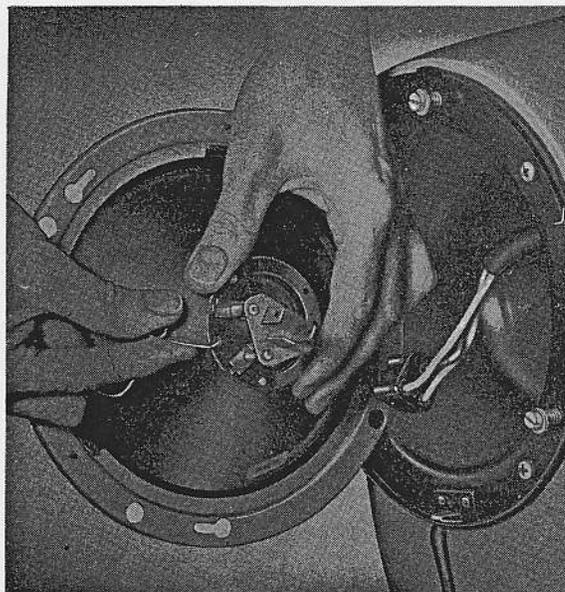

Fig. 13. Removing headlight insert.
2. Turn the headlight to the left, see Fig. 13, and lift out the insert.